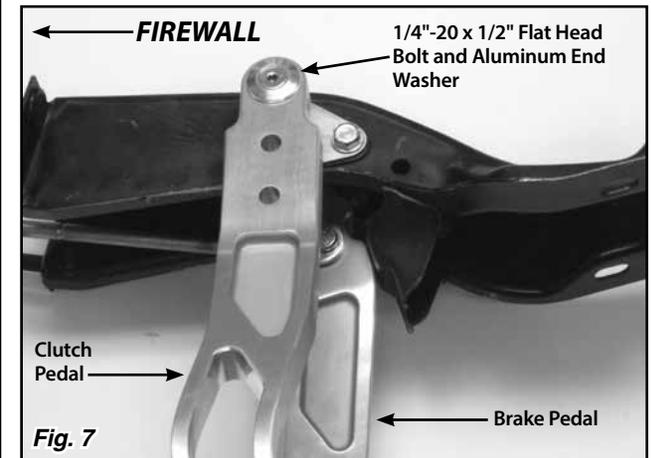

Fig. 7
**Step 4:** Install the clutch pedal onto the left hand end of the splined shaft. Install the 1/4"-20 x 1/2" flat head bolt and the aluminum end washer onto the left hand end of the splined shaft. Fig. 7